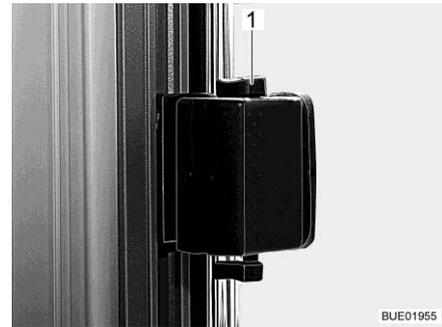

Fig. 116 Sliding window, unlocked
- Push the latch (Fig. 116,1) upwards.